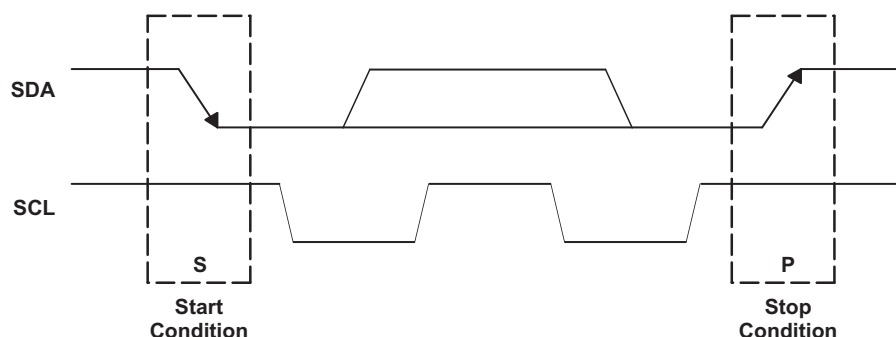

Figure 5. I²C Start and Stop Conditions
Figure 5 shows the basic I²C start and stop access cycles.
- The *master* initiates data transfer by generating a *start condition*. The *start condition* exists when a high-to-low transition occurs on the SDA line while SCL is high, as shown in Figure 5. All I²C-compatible devices should recognize a *start condition*.
- To signal the end of the data transfer, the master generates a *stop condition* by pulling the SDA line from low to high while the SCL line is high (see Figure 5). This transaction releases the bus and stops the communication link with the addressed slave. All I²C-compatible devices must recognize the *stop condition*. Upon the receipt of a stop condition, all devices know that the bus is released, and they wait for a *start condition* followed by a matching address.